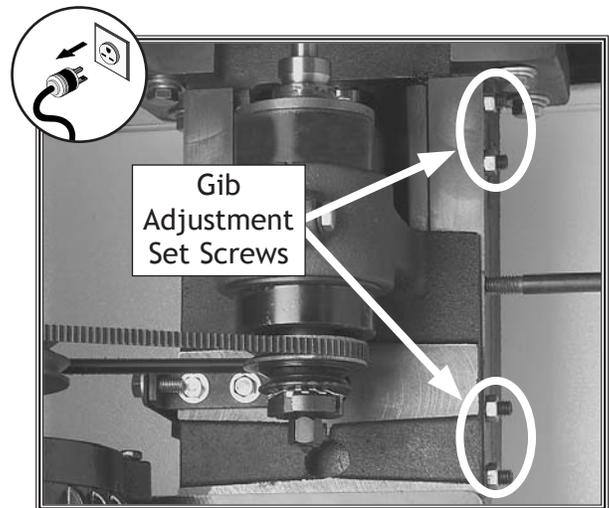

Figure 69. Gib adjustment set screws.
2. Loosen the jam nuts on the gib adjustment set screws (see **Figure 69**).